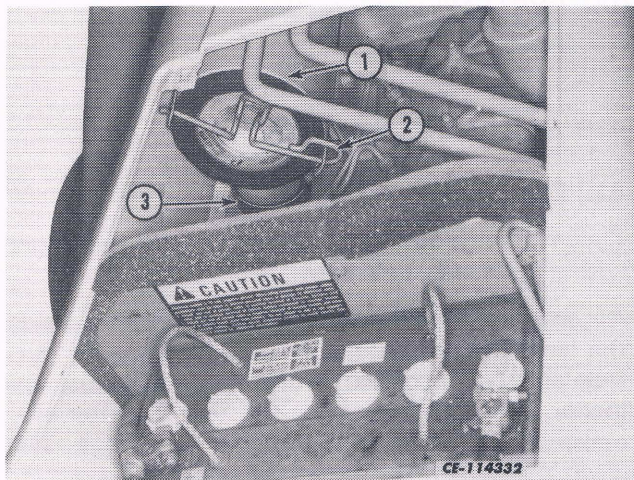

Fig. 1. Air Cleaner and Automatic Dust Unloader
2. Loosen the element retaining clamp (2, Fig. 1) by pulling outward. Remove the one end from the slot and leave the clamp hanging.